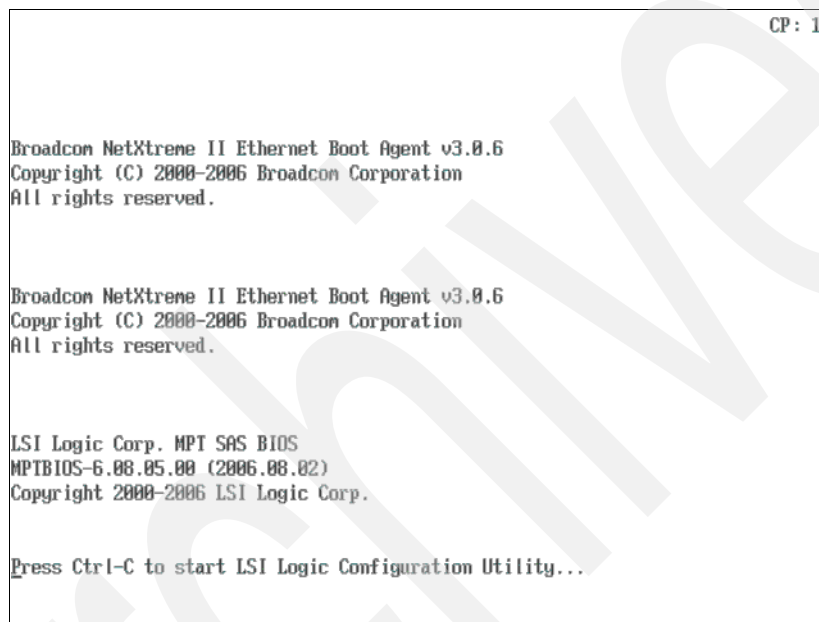

Figure 20-13 SAS Expansion Card - LSI Logic Configuration Utility
6. The server will now continue to boot. Press <Ctrl + C> to enter the LSI Logic Configuration Utility when you reach the screen shown in Figure 20-13.